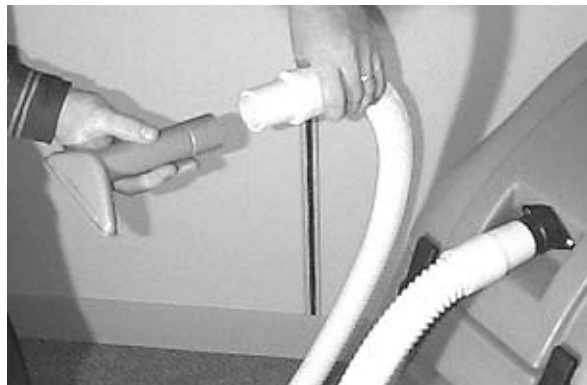

FIG. 12
2. Select desired accessory tool and connect to vacuum hose (Figure 12).